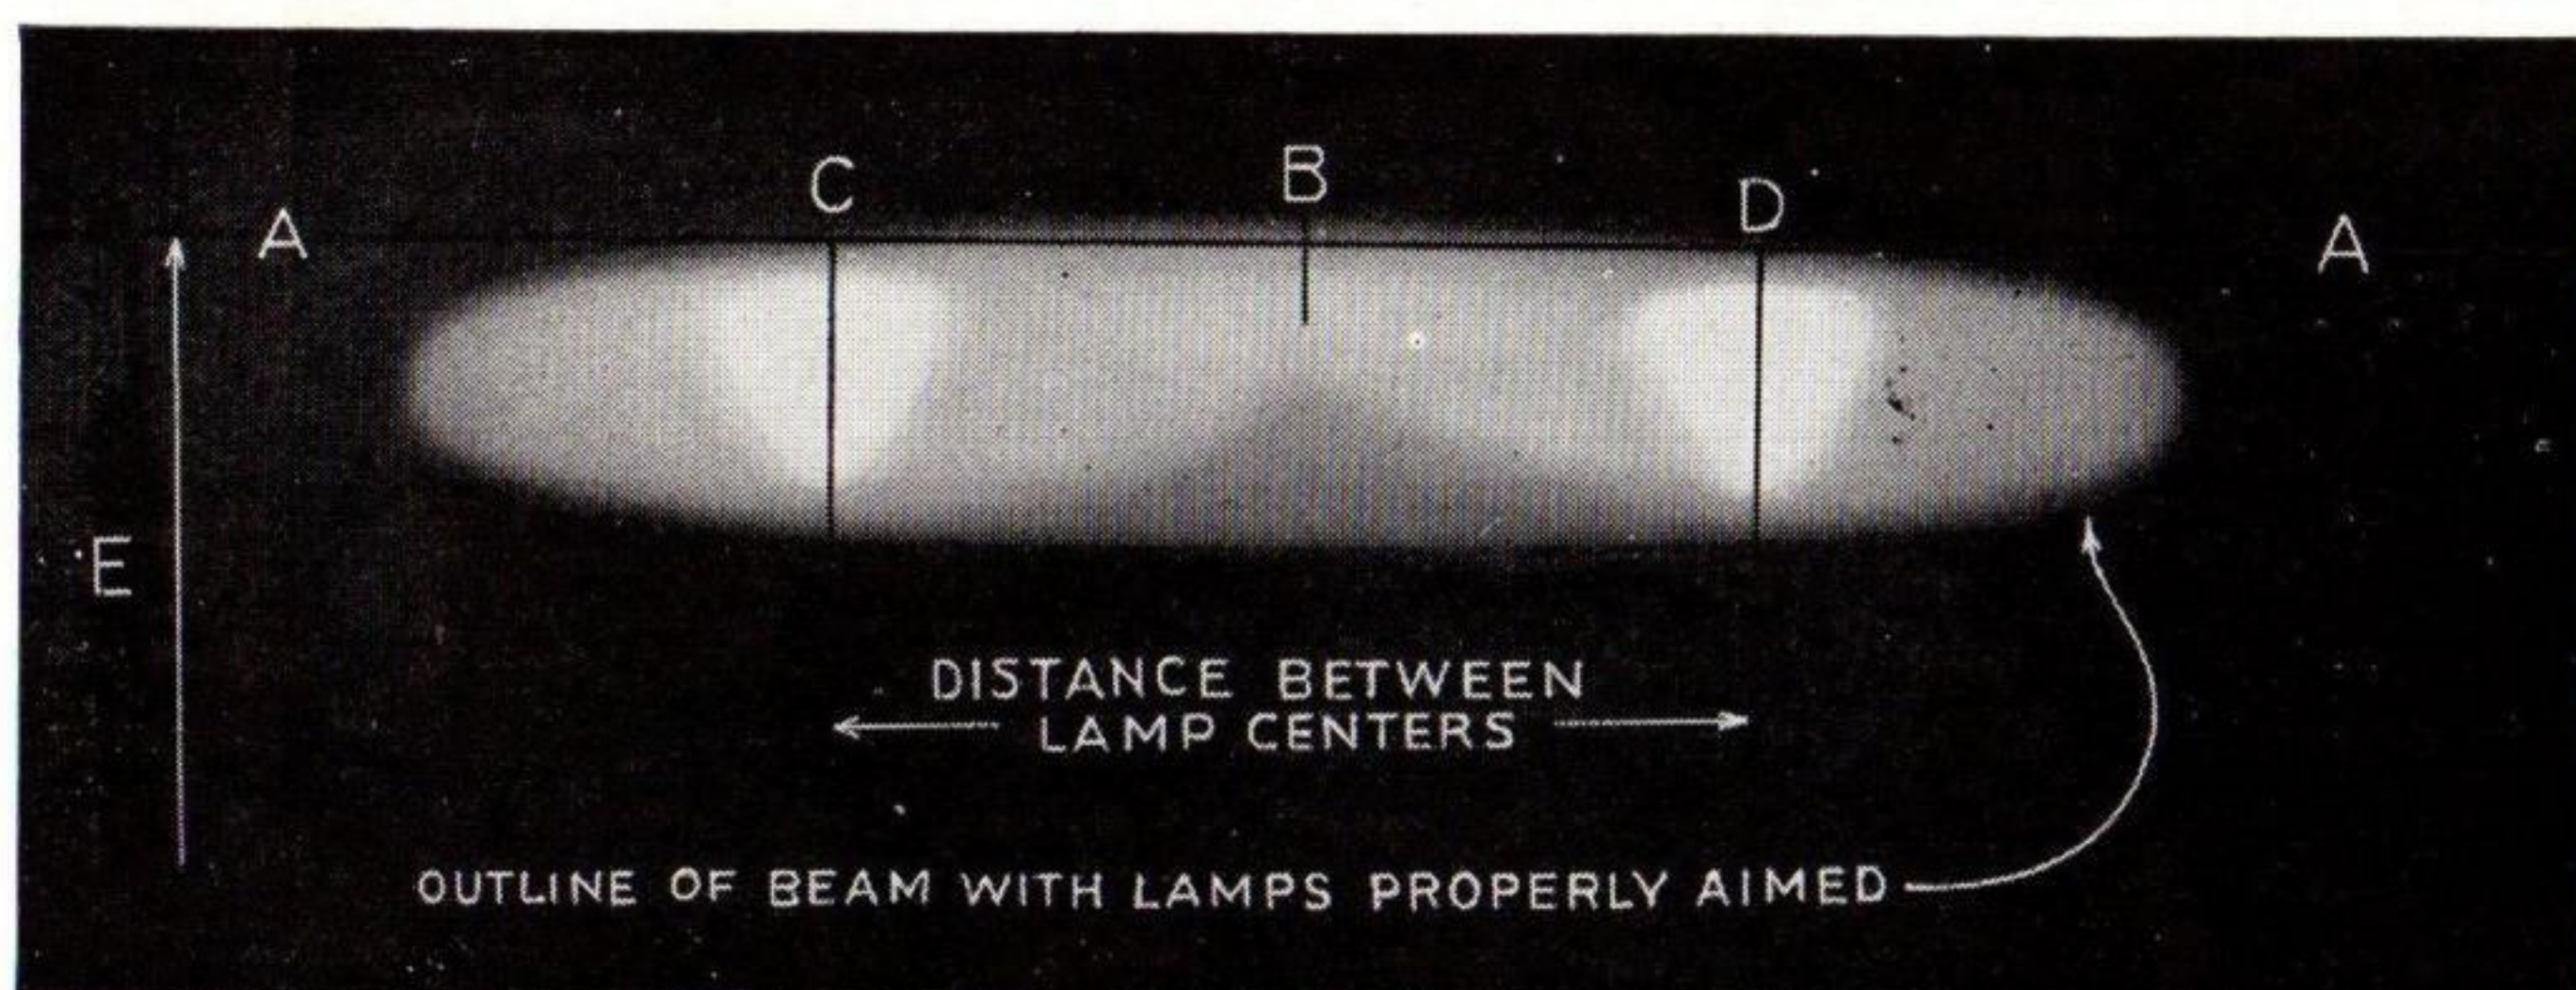

Figure 28
Place the car on a level floor or driveway, squarely in front of a white wall or screen at a distance of twenty-five feet. Draw a horizontal line (AA), Figure 28, on the wall six feet long and at a height of thirty-nine inches above the floor (E). This line represents the top of the beam. Next draw two vertical lines (C and D) twenty-four inches long, a distance of thirty and one-eighth inches apart. Measure one-half the distance between (C and D) and draw line (B) ten inches long. These vertical lines represent the distance between lamp centers.